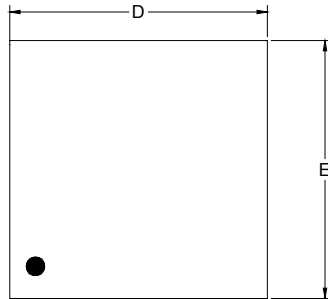

**Figure 20. The Paths and Loops Carrying High Frequency, DC Currents and Very High Frequency (for Layout Design Consideration)**
The switching node (SW) creates very high frequency noises several times higher than  $f_{SW}$  (1.5MHz) due to sharp rise and fall times of the voltage and current in the switches. To reduce the ringing issues and noise generation designing a proper layout is important to minimize the current path impedance and loop area. A graphical guideline for the current loops and their frequency content is provided in Figure 20. The following considerations can help making a better layout.